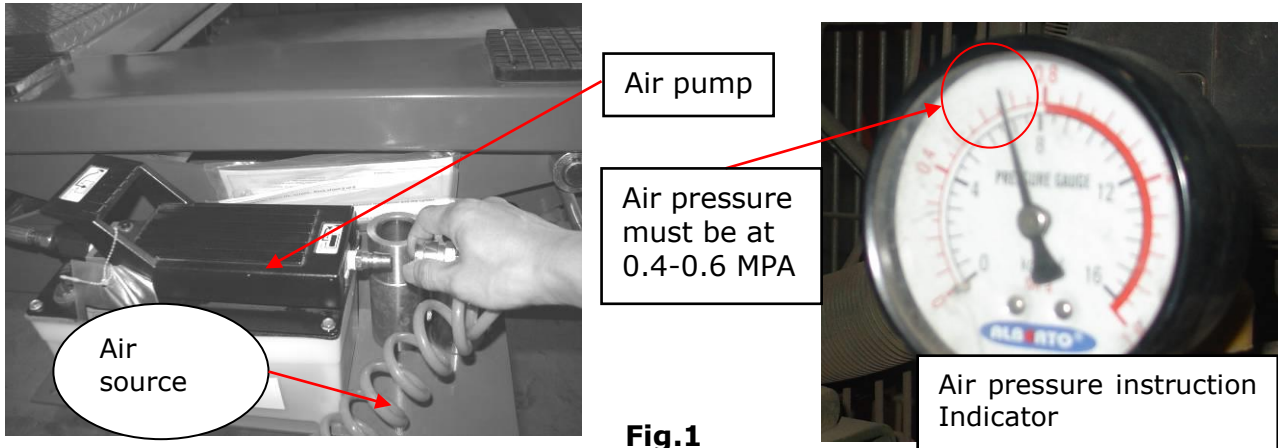

Fig.1
1.1 W-8 is connected with the air pump(Fig.1)